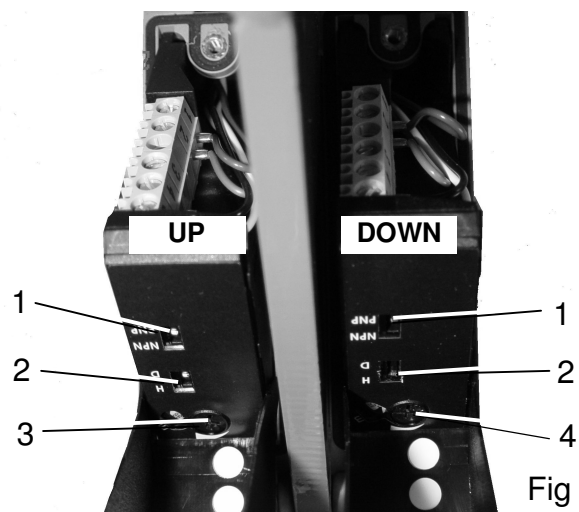

Fig 24
2. The switch (item 1, figure 24) should be set to 'PNP' on both sensors.
3. The switch (item 2, figure 24) should be set to 'D' for the 'down' sensor and 'H' for the 'up' sensor.
5. Slowly turn the 'up' sensor screw (item 3, figure 24) until its indicator light illuminates.
6. Slowly turn the 'down' sensor screw (item 4, figure 24) until its indicator light also illuminates. With both lights illuminated this becomes the 'raise' position.